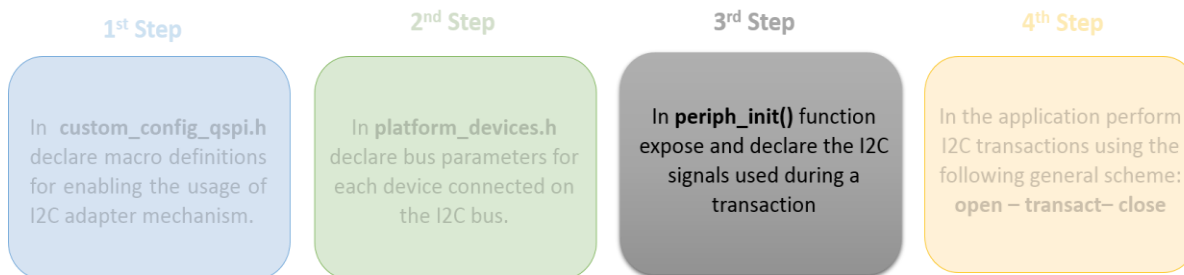

Figure 6: Third Step for Configuring the I2C Adapter Mechanism
- As illustrated in Figure 6, the third step is the declaration of the I²C signals. The user can multiplex and expose I²C signals on any available pin on DA1468x SoC.